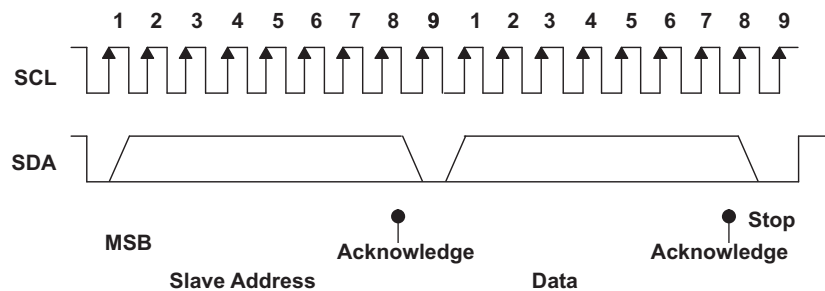

Figure 73. I²C Address and Data Cycles
- The master generates further SCL cycles to either transmit data to the slave (R/W bit 1) or receive data from the slave (R/W bit 0). In either case, the receiver needs to acknowledge the data sent by the transmitter. So, an acknowledge signal can either be generated by the master or by the slave, depending on which one is the receiver. The 9-bit valid data sequences consisting of 8-bit data and 1-bit acknowledge can continue as long as necessary (See Figure 73).